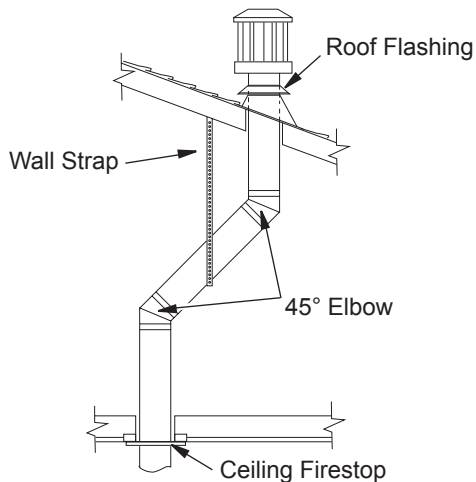

Figure 19 - Offset with Wall Strap and 45° Elbows
1. Determine the route your vertical venting will take. If ceiling joists, roof rafters or other framing will obstruct the venting system, consider an offset (see Figure 19) to avoid cutting load bearing members. **Note:** Pay special attention to these installation instructions for required clearances (air space) to combustibles when passing through ceilings, walls, roofs, enclosures, attic rafters, etc. Do not pack air spaces with insulation. Also note maximum vertical rise of the venting system and any maximum horizontal offset limitations.
4. Connect a section of pipe and extend up through the hole. **Note:** If an offset is needed to avoid obstructions, you must support the vent pipe every 3 feet. Use wall straps for this purpose (see Figure 19). Whenever possible, use 45° elbows instead of 90° elbows. The 45° elbow offers less restriction to the flow of the flue gases and intake air.
5. Place the flashing over the pipe section(s) extending through the roof. Secure the base of the flashing to the roof and framing with roofing nails. Be sure roofing material overlaps the top edge of the flashing as shown in Figure 19. There must be a 1" clearance from the vent pipe to combustible materials.